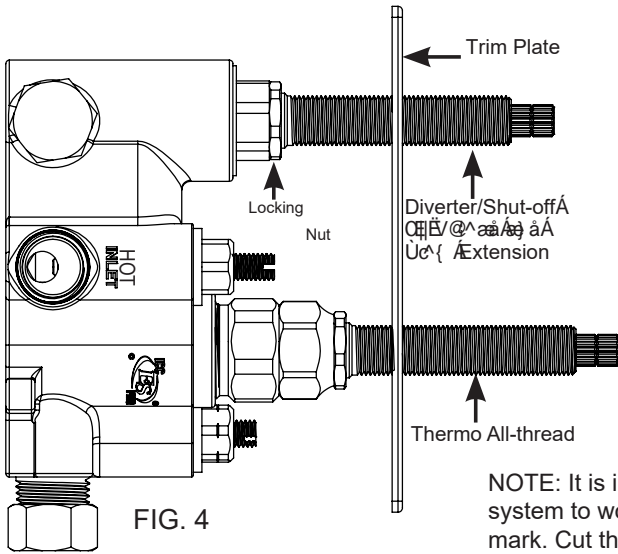

FIG. 4
1. Install extended Thermo Stem with Brass Friction Washers and All-threads onto Cartridge Stems. Fully seat stems onto Cartridges by tightly securing All-thread Nipples and Locking Nut onto Valve. Install Plate onto All-threads. FIG.4